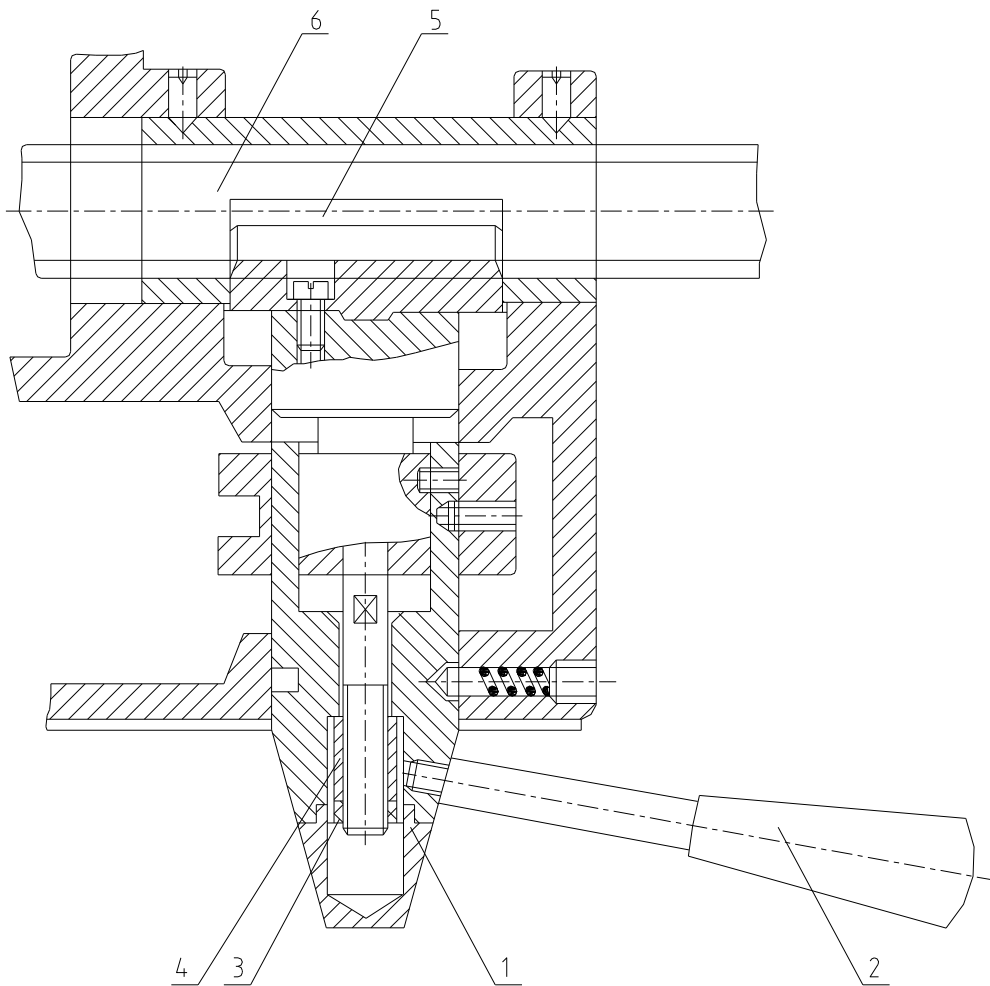

Fig.6-5
6.2.4. ADJUSTMENT THE CLEARANCE BETWEEN THE LEAD SCREW AND NUT (See Fig. 6-5)
Method 1: (See Fig.6-5)